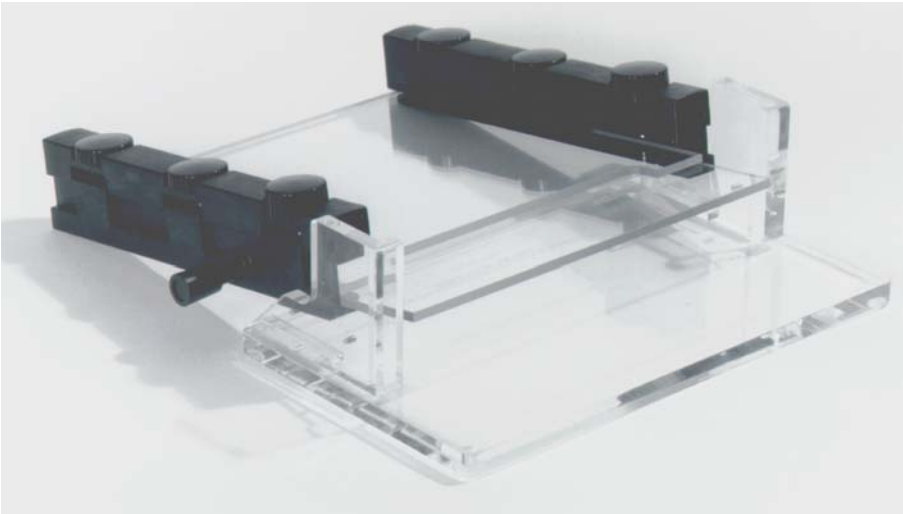

Figure 2-6. Rest the apparatus on the casting stand (25 cm plates).
4. For 25 cm gels, a notch on the back of each rail allows the apparatus to rest on the uppermost metal posts on the casting stand (Figure 2-6). This slight incline improves the flow of the gel between the plates.